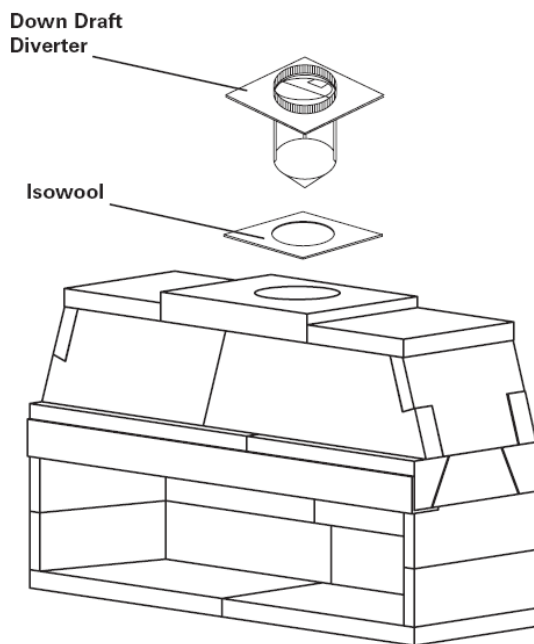
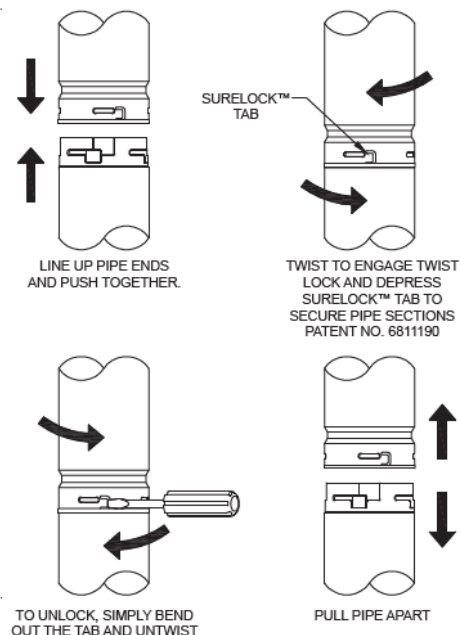

FIGURE 27
FIGURE 28
- 2) Center the Isowool blanket over Isokern Top Plate’s outlet and trace the outlet’s outline with a pen or marker. Cut a hole in the blanket along this outline to match the hole in the Isokern top plate. Center the cut Isowool blanket over the Isokern Top Plate flue opening, then center Anchor Plate over the Isowool blanket (**Figure 27**).
- 3) Secure the Anchor Plate with four (4) masonry anchors.
- 4) Starting at the anchor plate, attach the first section of B-Vent Pipe. A minimum of 12” of straight pipe will be required before any offset. The B-Vent sections and components use the Metal-Fab positive twist-lock for interconnections. Align the ends of the vent, push together then twist section to lock in place (**Figure 28**).